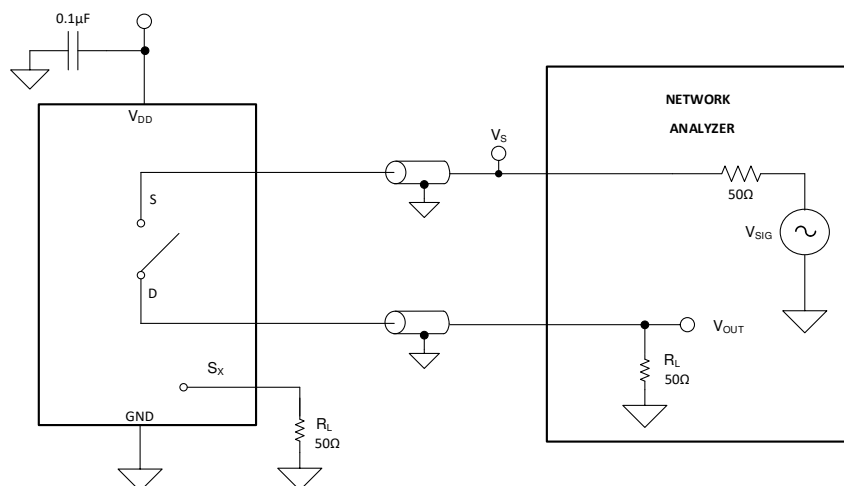

图 8-8. Off Isolation Measurement Setup
Off isolation is defined as the ratio of the signal at the drain pin (D) of the device when a signal is applied to the source pin (S_x) of an off-channel. 图 8-8 shows the setup used to measure, and the equation to compute off isolation.